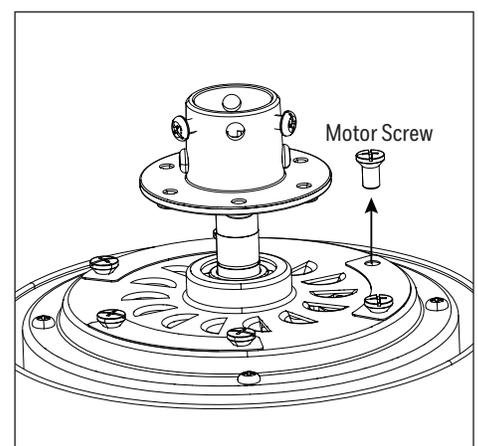

Figure 2.3
3. Remove the 6 Phillips-head motor screws from the top part of the motor and save the motor screws for blade arm installation (Figure 2.3).